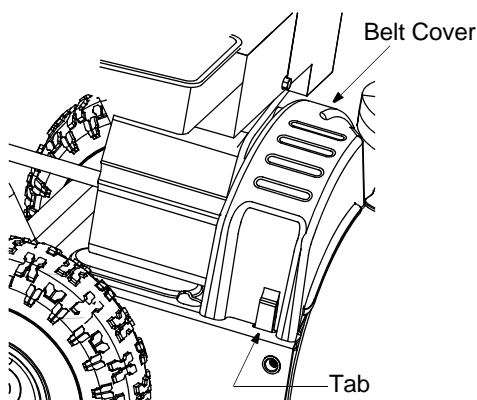

Figure 10
- Push the belt cover to release the plastic tabs. Pull the belt cover out from around the engine and the chute. Remove it away and save. See Figure 10.